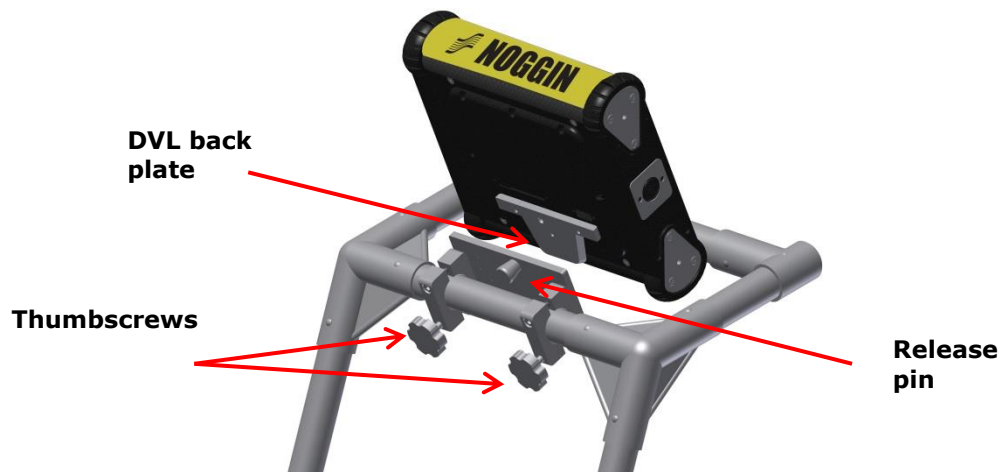

Figure 2-29: Attaching the digital video logger (DVL).
2. Slide the DVL down onto the mount so that the sides of the mount catch on the DVL back plate (Figure 2-29).